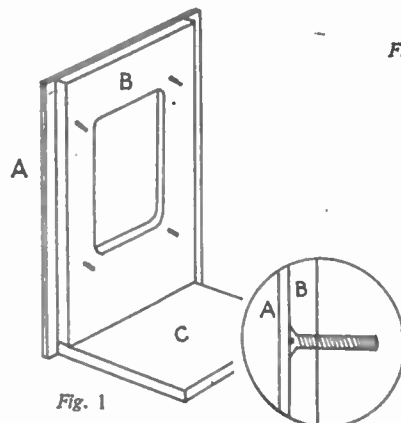
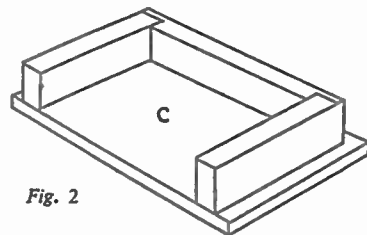

Fig. 1
Fig. 2
When constructing the cabinet, it is, perhaps, best to start with the front. Fig. 1 shows how this is made.
countersunk on the side which is to be glued to the outer plywood. Put the bolts in, and then glue the boards together, using heavy weights to hold down until set. Fig. 1 inset shows how the bolts come in between the boards.
First saw out the bottom of the cabinet (C in Fig. 1). This can be $\frac{1}{2}$ in. or $\frac{3}{4}$ in. plywood. The base proper or pedestal consists of three pieces of wood, jointed as shown in Fig. 2. These should be at least 1 in. thick, and about 4 ins. deep, although this last measurement can be altered to suit one's own fancy. The lengths of the pieces will depend on the
The book rest (C) shown both in Figs. 1 and 2, can be cut to the dimensions given from $\frac{1}{2}$ in. plywood. It is hinged to the trough with a pair of $\frac{1}{2}$ ins. brass butts, and along the bottom a strip of beading is glued and pinned down to keep the books from sliding off. It will be convenient at this stage to clean up the trough with glasspaper, ready for any subsequent finish.
An end view is given at Fig. 1, and a part front view, in Fig. 2, with details as to sizes of timbers used. Make up the trough section by nailing together at right angles two boards, as in inset detail (A). Wood of $\frac{1}{2}$ in. thickness will do here, and it should be noted that board (A1) must be cut $\frac{1}{2}$ in. longer than (B2) to ensure inside measurements of the trough being the same. The ends can be cut from similar board, or from $\frac{1}{2}$ in. plywood, as preferred. These ends must each be a true square, so take trouble to mark off correctly, with a try square. Glue and nail the ends to finish off the trough.